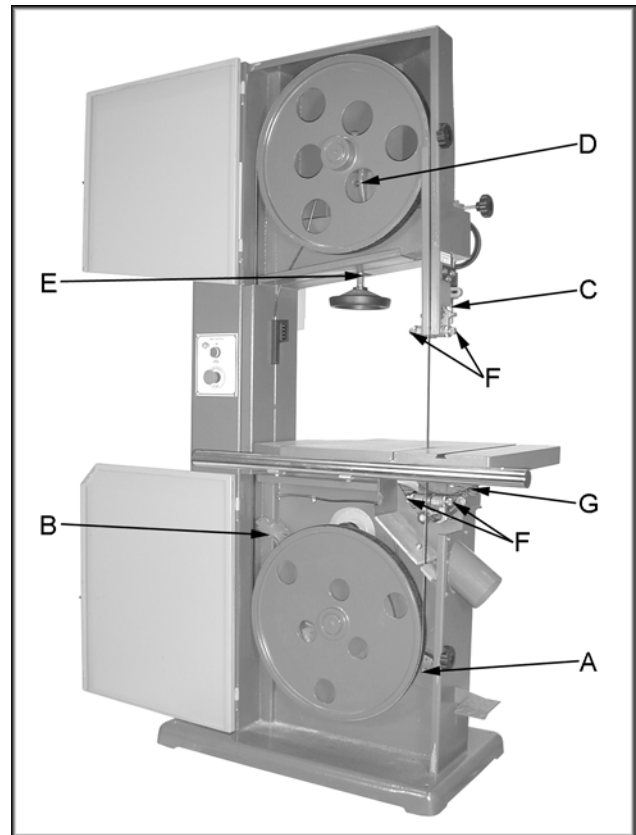

Figure 15
Keep the brake switch (A, Figure 15) clean and free of dust build up.
Adjust the lower wheel brush (B, Figure 15) to make contact with the tire as the brush wears.
- Clean and grease upper guide raising and lowering rack (C, Figure 15) monthly, or as needed.
- Oil the dove tailed ways (D, Figure 15) that the upper wheel slides on for blade tension monthly, or as needed.
- Grease the tensioning screw (E, Figure 15) monthly, or as needed.
- The guides (F, Figure 15) require oil daily or every 8 hours of use. They have a ball valve for oiling. We recommend 10 weight, non-detergent oil.
- Use a cloth to clean trunnion (G, Figure 15). Apply white lithium grease to lubricate trunnions.